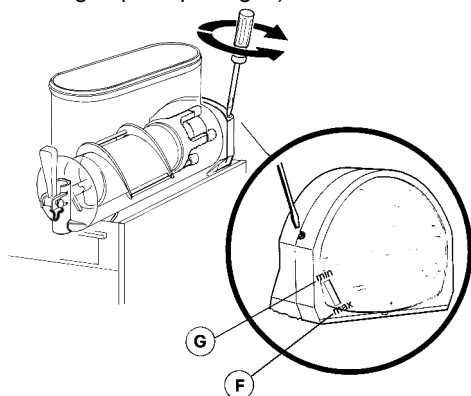

figure 3
With reference to figure 3 dispenser controls functions are as follows:
**1 Granita viscosity adjustment:** proper Granita viscosity is factory preset. To change the viscosity, if needed, use a standard screwdriver to turn the adjustment screw located in the rear wall of each container as follows (see figure 3):